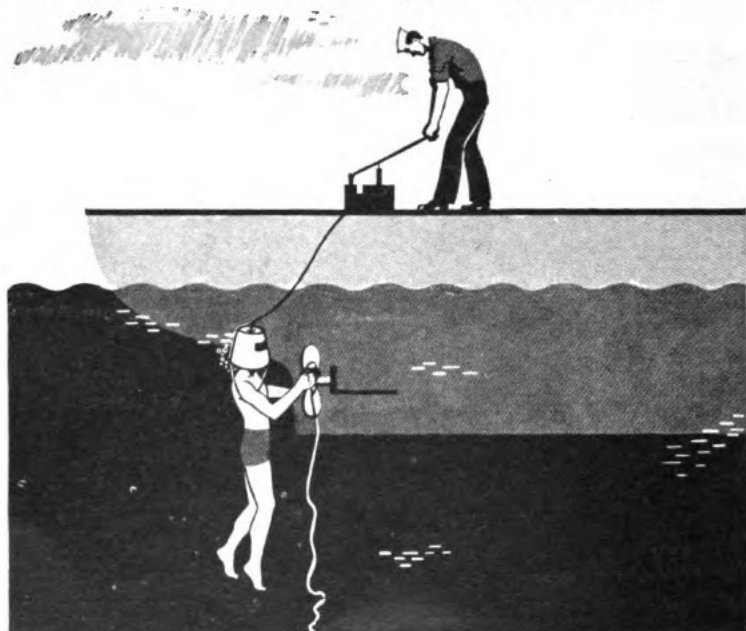

Figure 113.
3. To clear a fouled screw, Bill has gone over the side with a bucket over his head, as in figure 113. An air hose runs